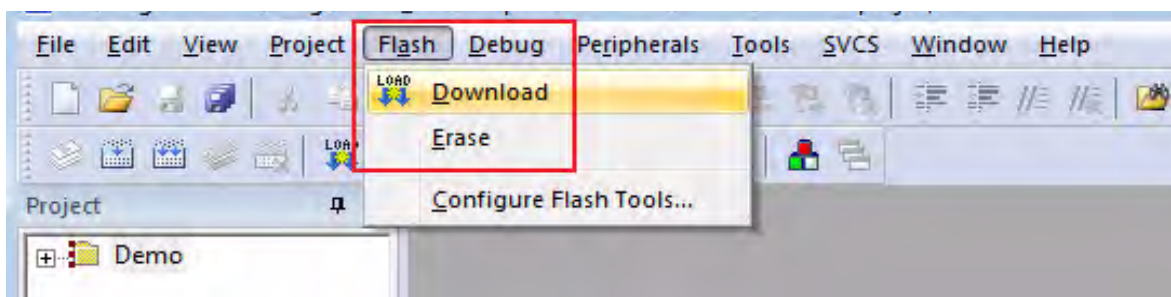

Figure 39. The Keil IDE Flash Menu
- From the **Flash** menu of the Keil IDE (see Figure 39), select either of the following options: